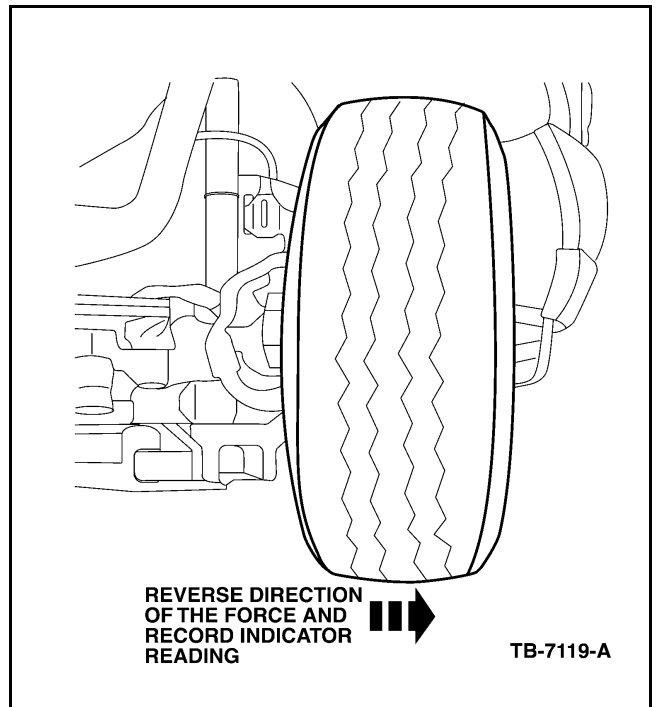

Figure 8 - Article 03-11-2
9. Reverse the lateral force to the wheel in the opposite direction (Figure 8) and record the maximum amount of displacement measured by the indicator. Repeat several times rocking the wheel back and forth to assure a good reading.